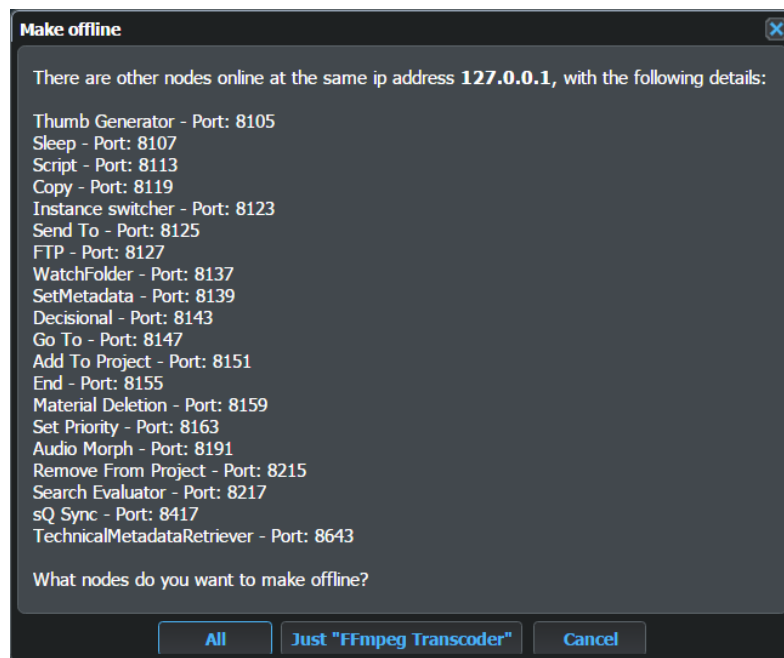

Fig. 10-221: Services Page - Taking a Node Offline
- To take only the specified node offline, e.g., **Just "FFmpeg Transcoder"** in Figure 10-221.